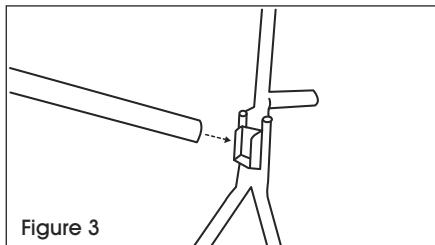

Figure 3
3. Slide axle (D) into holder on assembly legs. (See Figure 3)